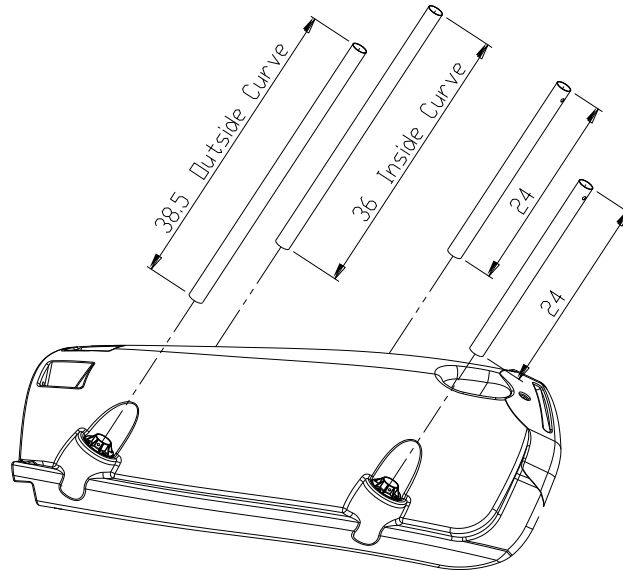

Figure 5
- 2) Insert the slide legs into the leg sockets. See Figure 5.